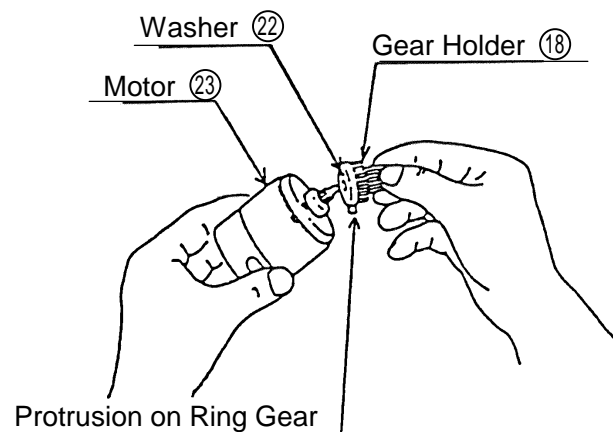

Fig. 7
- [2] Mount the parts assembled in Para. [1], above, onto the Motor (23). (Fig. 7)